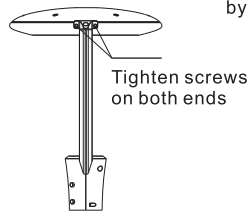

Figure 2
2. Tighten screws on both sides of the bracket to fix the lamp body. Installation is finished when the lamp body is fixed without shaking. (Figure 2)